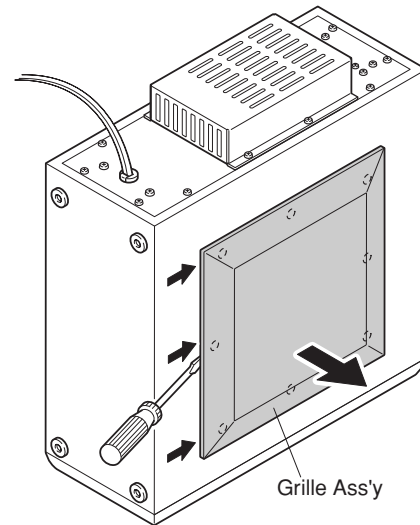

Fig. 4
- Push up the Grille Assembly with a flat tip screwdriver or the like inserted from the bottom. (Fig. 4).